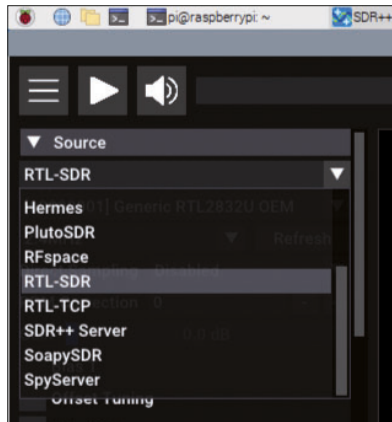

Figure 9.3: Set Source to RTL-SDR.
- Click **Source** and set the SDR receiver type to **RTL-SDR** (Figure 9.3).